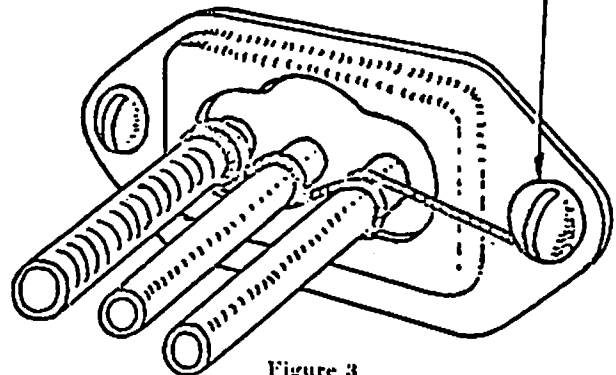

Figure 3
f. Ground the speedometer cable, oil line and temperature indicator tube, where they enter the dash. Use No. 14 bare stranded wire provided and ground it under one of the grommet cap screws. (See Figure 3).